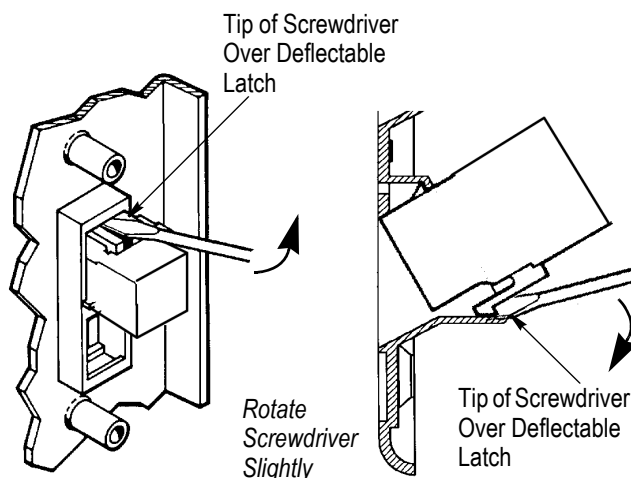

Figure 3
1. Insert a screwdriver tip over the deflectable latch of the jack or insert, and rotate it slightly to release the deflectable latch. Refer to Figure 3.
- Replaced "pry down" with "rotate" in Section 4, and added arrows to Figure 3